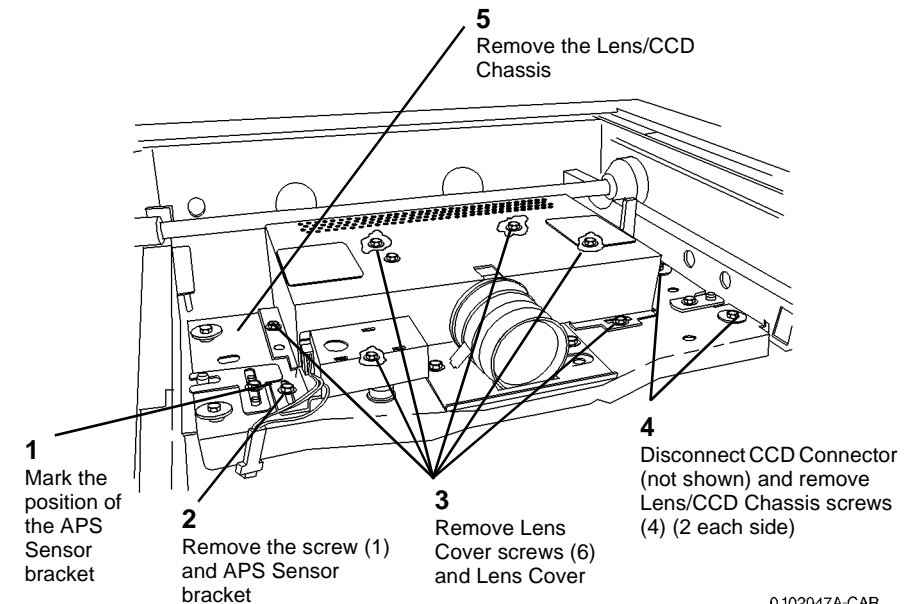

Figure 1 Removing Lens Cover
2. Remove the Lens/CCD Chassis (Figure 1).